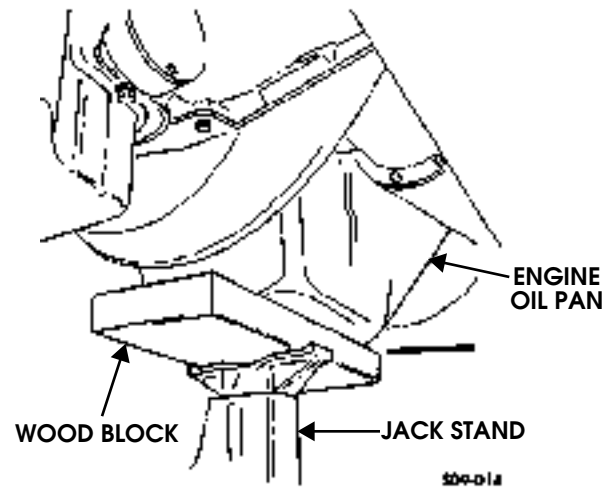

Figure 9-130: Supporting Engine
3. Support engine under engine oil pan with wood block and jack stand (Figure 9-130).
2. Remove wood block and jack stand from under engine oil pan (Figure 9-130).